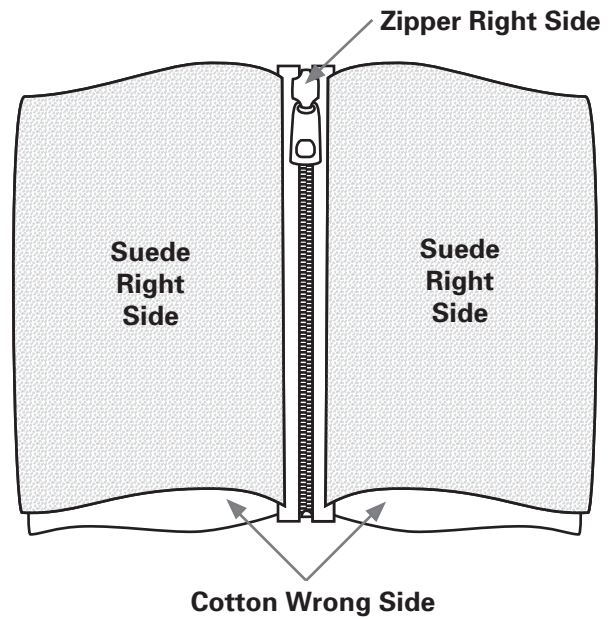

Fig. 5-4
- Repeat Step 3 to sew the two remaining fabric rectangles to the remaining zipper tape. When placed flat with the zipper right side up, the suede pieces should be facing right side up on each side of the zipper. The cotton pieces should be right side down. (Fig. 5-4)